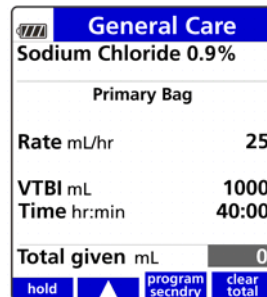

Figure 125. hold Soft Key.
2. To place the Pump in standby, press the **hold** soft key. See Figure 125.